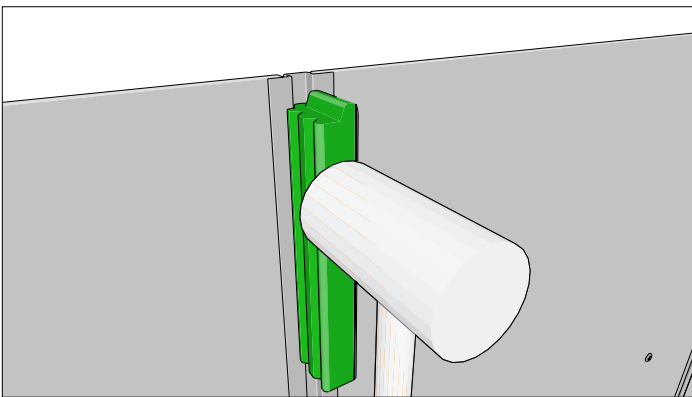

Figure 16.2
13. Align the top cap with the back plate. Place the EasyTrim® HammerBlock® in the center of the top cap. Hit the HammerBlock® in 8" to 10" increments along the length of the trim from one end to the other. (Figure 16.2).